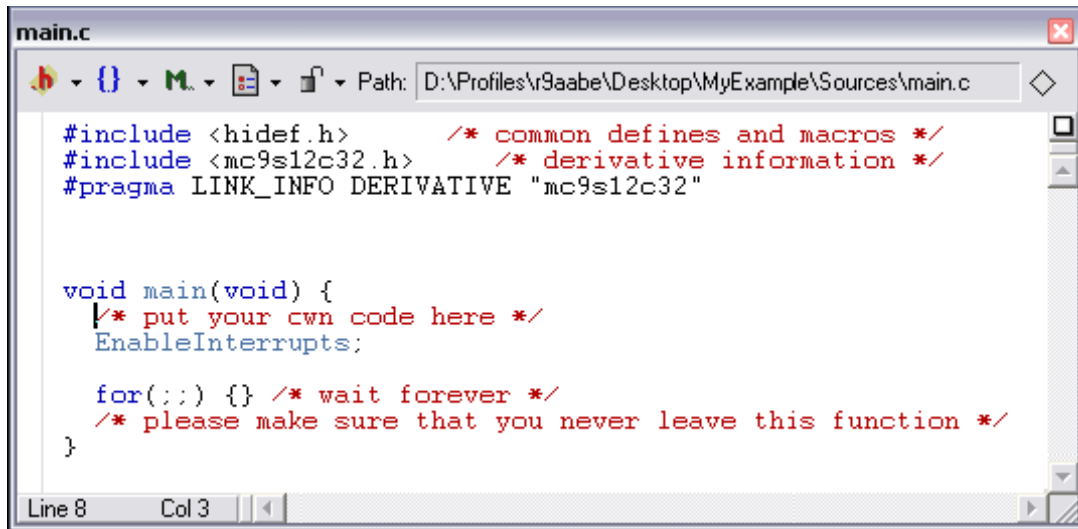

Figure 14. Editor Window - main.c
- b) Double-click the main.c file. An editor window will open and display the contents of main.c (see Figure 14)